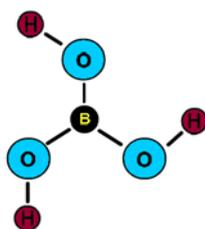

Figure 7
- $H_3BO_3$  – chemical formula for boric acid. Composed of three hydrogen, one boron, and three oxygen atoms. (Figure 7)